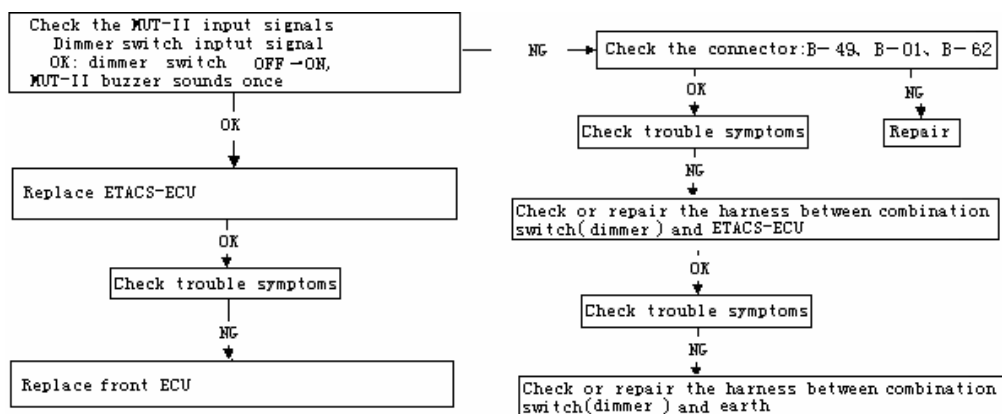

Fig 20-51
(3) Checking procedure No.3 as table20-13 and fig20-51.